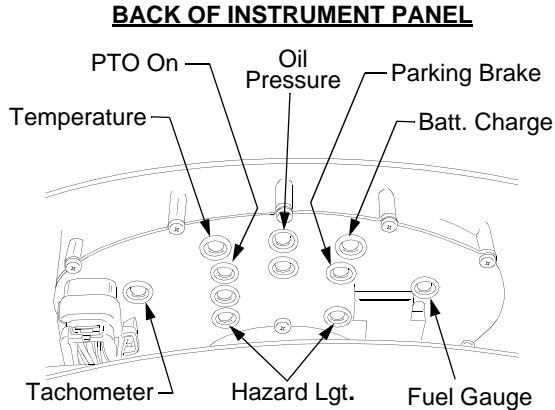

Figure 36
- Determine the position of the burned out bulb and pull the seal plug from the back of the instrument panel. See Figure 36.